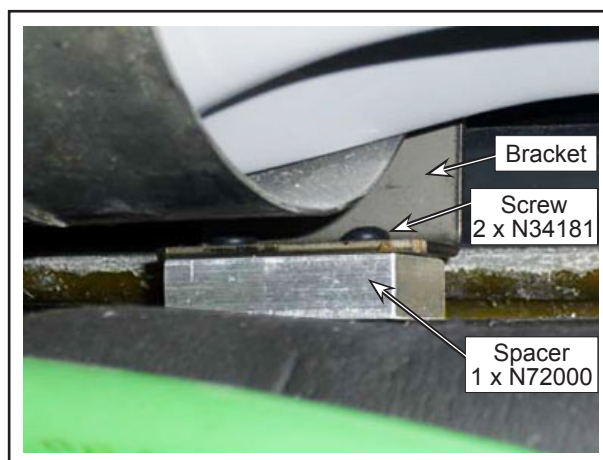

Figure 12 - Spacer
- 2.10. Add the N72000 spacer between the bracket and the structure. Use the new N34181 screws to keep it in place. See Figure 12.